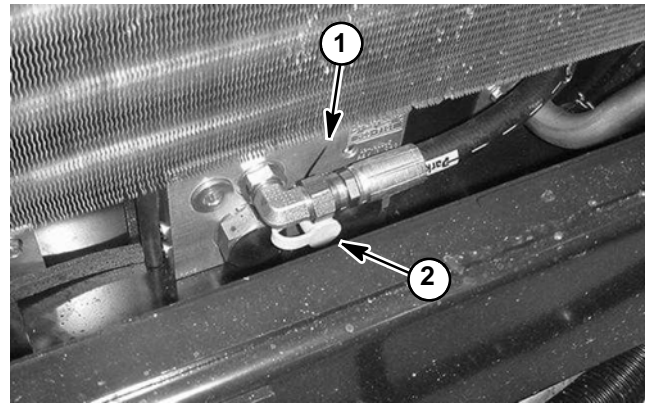

Figure 32
**Procedure for Traction Circuit Reducing Valve (PR) Pressure Test**
1. Make sure hydraulic oil is at normal operating temperature by operating the machine under load for approximately ten (10) minutes. Make sure the hydraulic tank is full.
3. Connect a 1000 PSI (70 bar) pressure gauge to test port on 4WD manifold under radiator (Fig. 32).